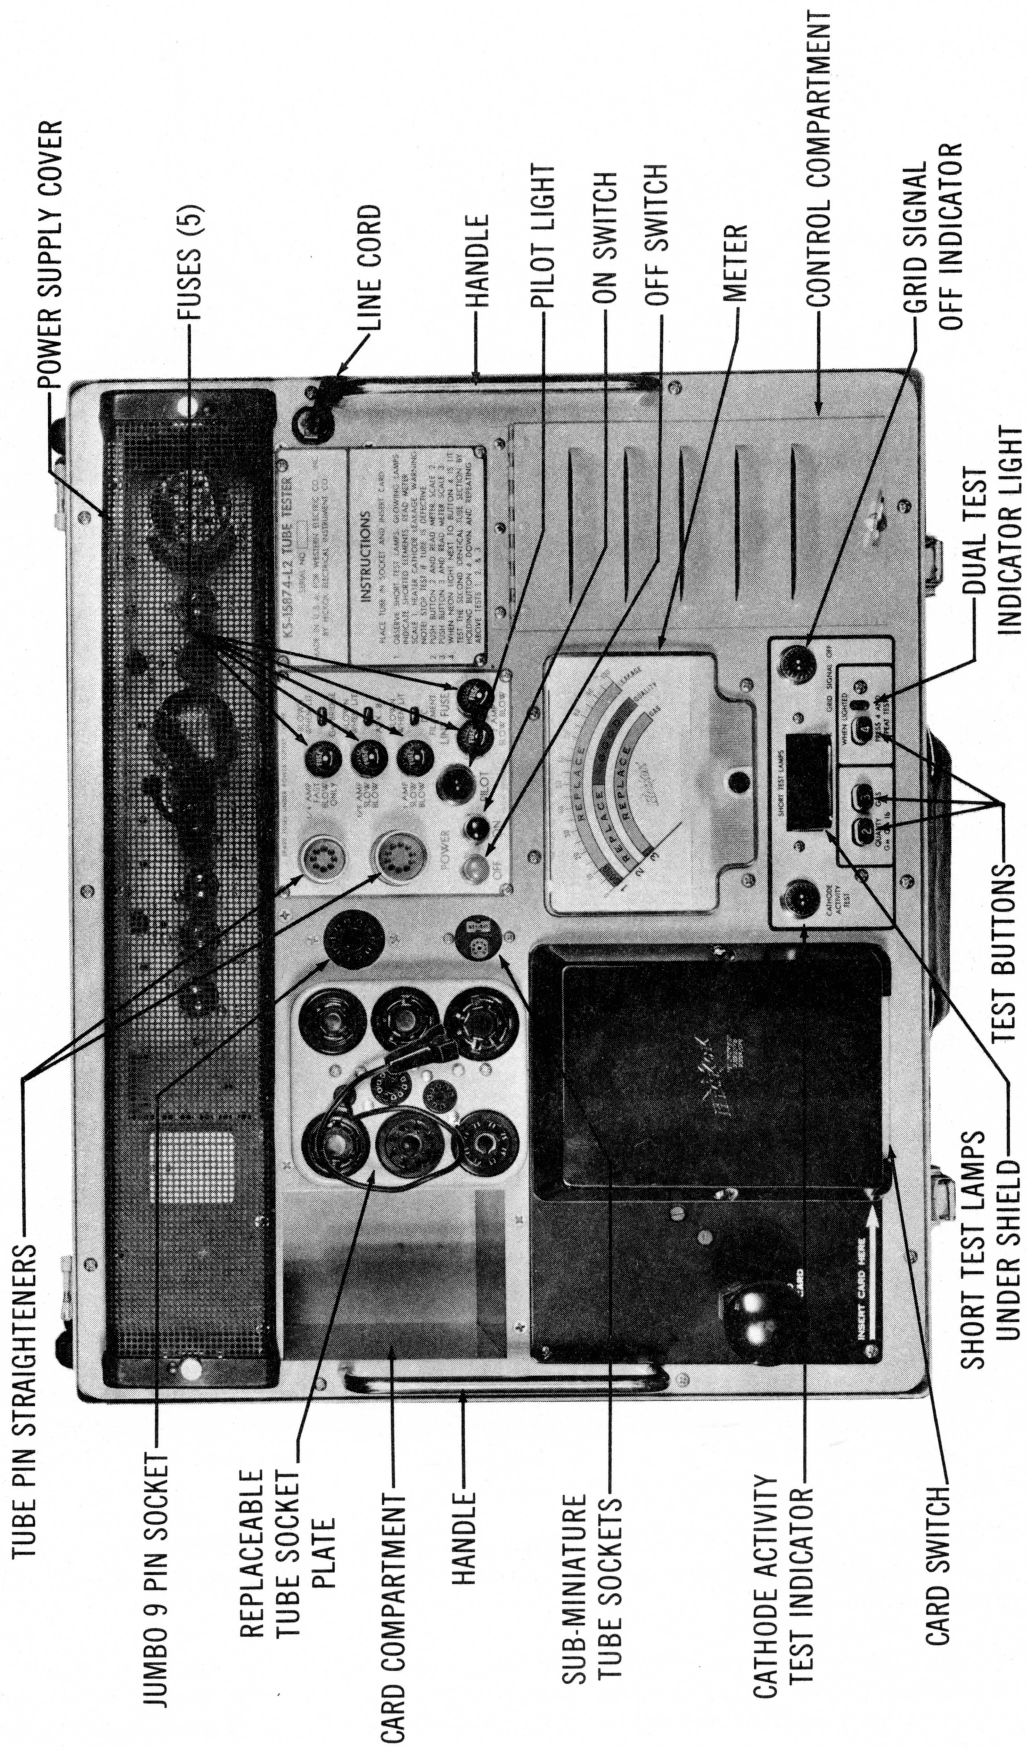

Figure 2 - Identification of Controls and Components
2.04 The front panel is shown in Figure 2. The largest feature is the card switch which has a receptacle for receiving the program cards. When a pre-punched card is fully inserted into the switch it actuates a micro-switch which in turn actuates a solenoid to move the card switch contacts to complete the circuit. When the card switch actuates, the large knob at the left of it pops up. This PUSH TO REJECTCARD knob must be pressed to open the switch contacts and release the card. The card switch actuates only when a card is in the proper position and operates on the principle that absence of a hole in the card makes a contact.